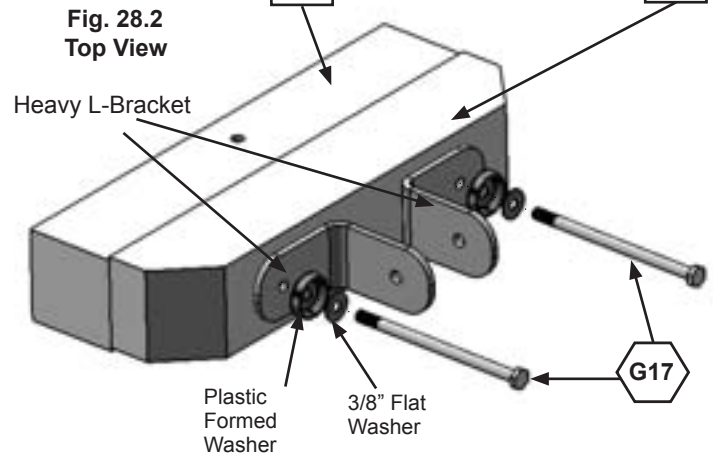

Fig. 28.3
B: Attach 3 (WB7) 5/16 x 3" Wafer Bolts (with flat washer and t-nut) to all three holes in each (272) SW Post as shown in fig. 28.3 and 28.4. **IMPORTANT! MAKE SURE ALL 6 BOLTS ARE ATTACHED TO MINIMIZE CHECKING OF WOOD.**